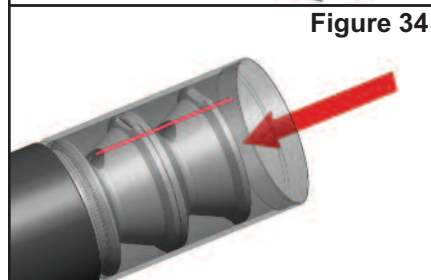

Figure 34
8. The next baffle to go into the front module is the grey anodized baffle with both rear tabs and notches on the cone. Place it atop the transition baffle and tab the two together so that the output ports are aligned. See Figure 34.